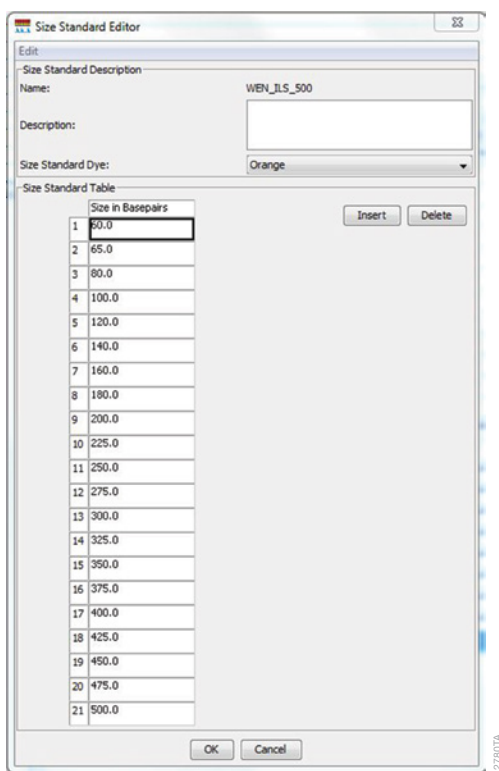

Figure 12. The GeneMapper® Software, Version 5.0, Size Standard Editor.
4. In the 'Size Standard Editor' window (Figure 12), select **Basic or Advanced** and then **OK**.
5. Enter a detailed name, such as "WEN_ILS_500" (Figure 12).
7. Enter the sizes of the internal lane standard fragments (60, 65, 80, 100, 120, 140, 160, 180, 200, 225, 250, 275, 300, 325, 350, 375, 400, 425, 450, 475 and 500 bases). See Figure 12 above.